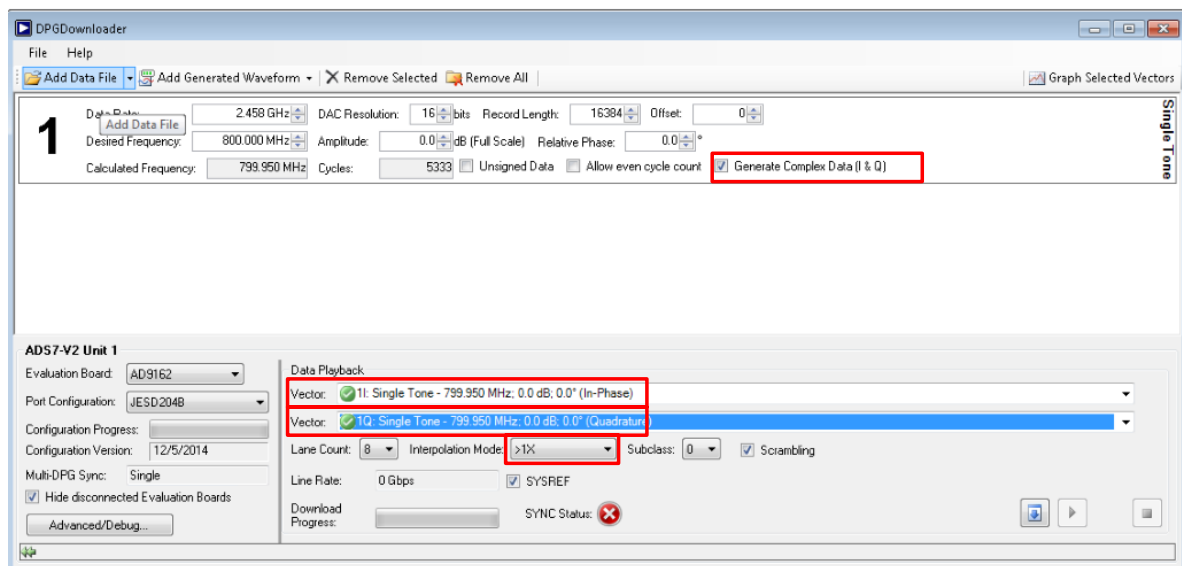

Figure 19. DPG Downloader when configured for interpolation ratio >1
12. If the interpolation ratio configured in the "AD916x_Initial_Worksheet.xlsx" is bigger than 1, DPG Downloader configuration shall be changed as well as shown in Figure 19. The data type is complex and interpolation mode is set to ">1x".